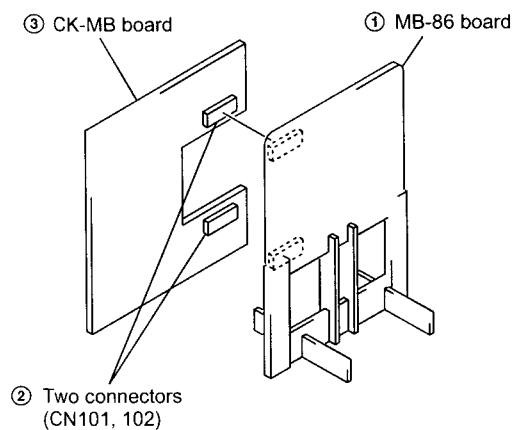

Fig. 4
6) Set the CK-MB board as shown in Fig. 4.